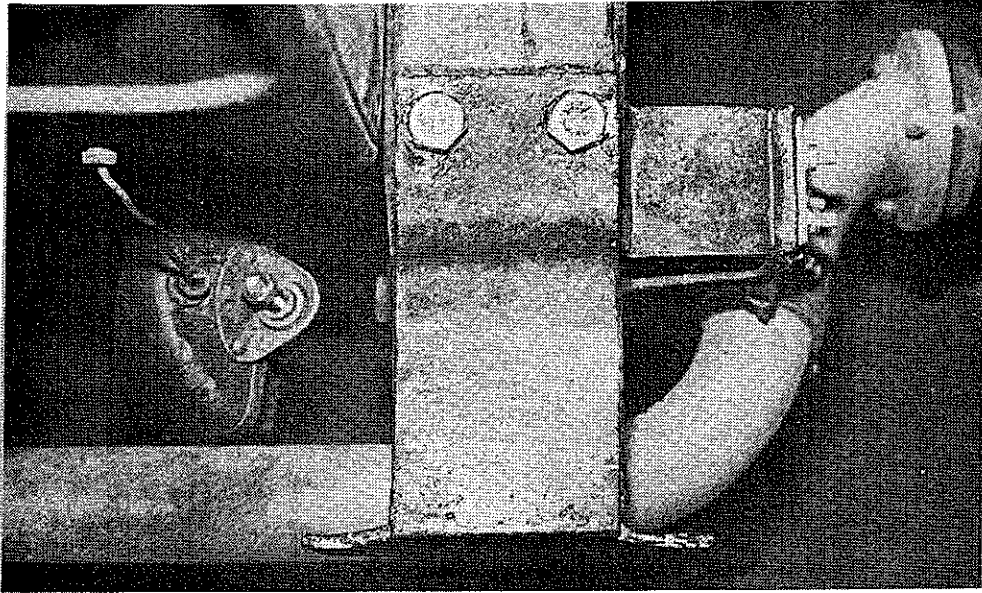

FIG 3 - BOLTS FITTED TO RE-DRILLED HOLES IN END OF
- h. Fit item 4 from Table 1 to the holes in the ends of the chassis rails as shown in Fig 3 and secure as shown in Fig 4 using items 5 and 6 from Table 1. Torque to 95Nm (70 ftlbs).